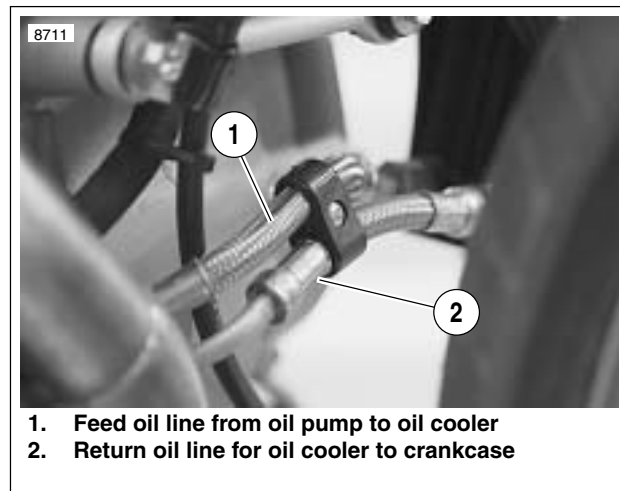

Figure 3-4. Oil Line Connections at Oil Cooler
18. See Figure 3-4. Disconnect oil lines at oil cooler only.